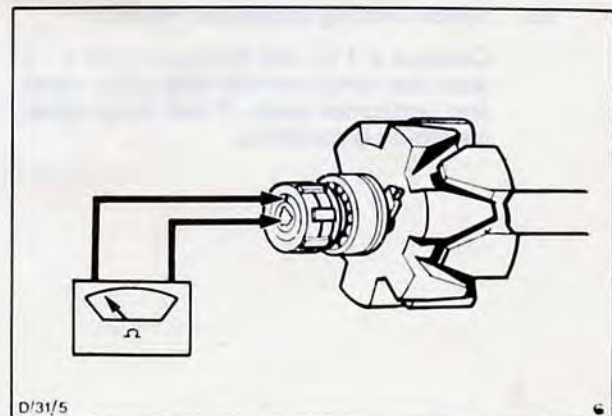

Fig. 49. Rotor winding continuity check
- (a) Rotor winding continuity, Fig. 49.